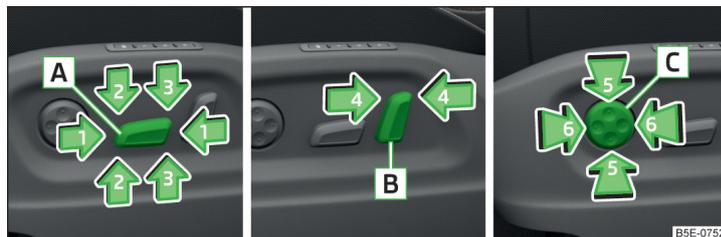

Fig. 60 Control elements at the seat
Control elements at the seat » Fig. 60
► Push the switch **A** in the direction of one of the arrows 1 » Fig. 60.
► Push the switch **A** in the direction of one of the arrows 2 » Fig. 60.
► Push the switch **A** in the direction of one of the arrows 3 » Fig. 60.
► Push the switch **B** in the direction of one of the arrows 4 » Fig. 60 .
► Push the switch **C** in the region of one of the arrows 5 » Fig. 60.
► Push the switch **C** in the region of one of the arrows 6 » Fig. 60.